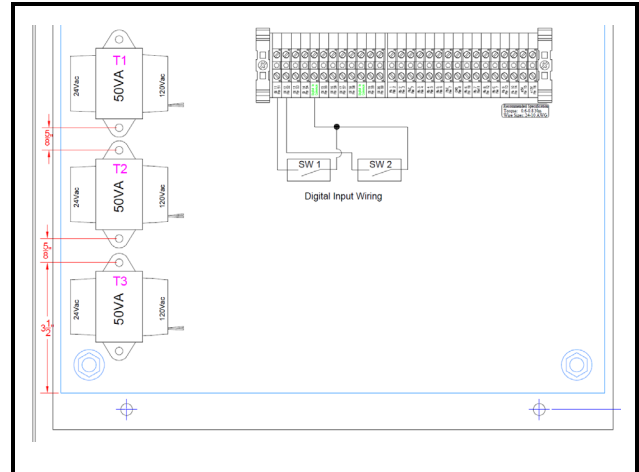

Figure 2-9 - 10 DIN Panel Digital Inputs
The 10 DIN control panel has 20 voltage-free digital inputs for connecting switches and loads. Digital inputs 1 to 10 are reserved for use for dual temperature switches however, inputs 11 to 20 are available to be connected to other field inputs. The 11 to 20 digital inputs are factory-wired to a terminal block on the panel backplate for easy field wiring. The digital inputs share a Common terminal on the PLC hardware, when more than one (1) digital input is configured, join the Commons together and wire to Digital-In Common terminal on terminal block. A wiring example is shown in *Figure 2-9*.